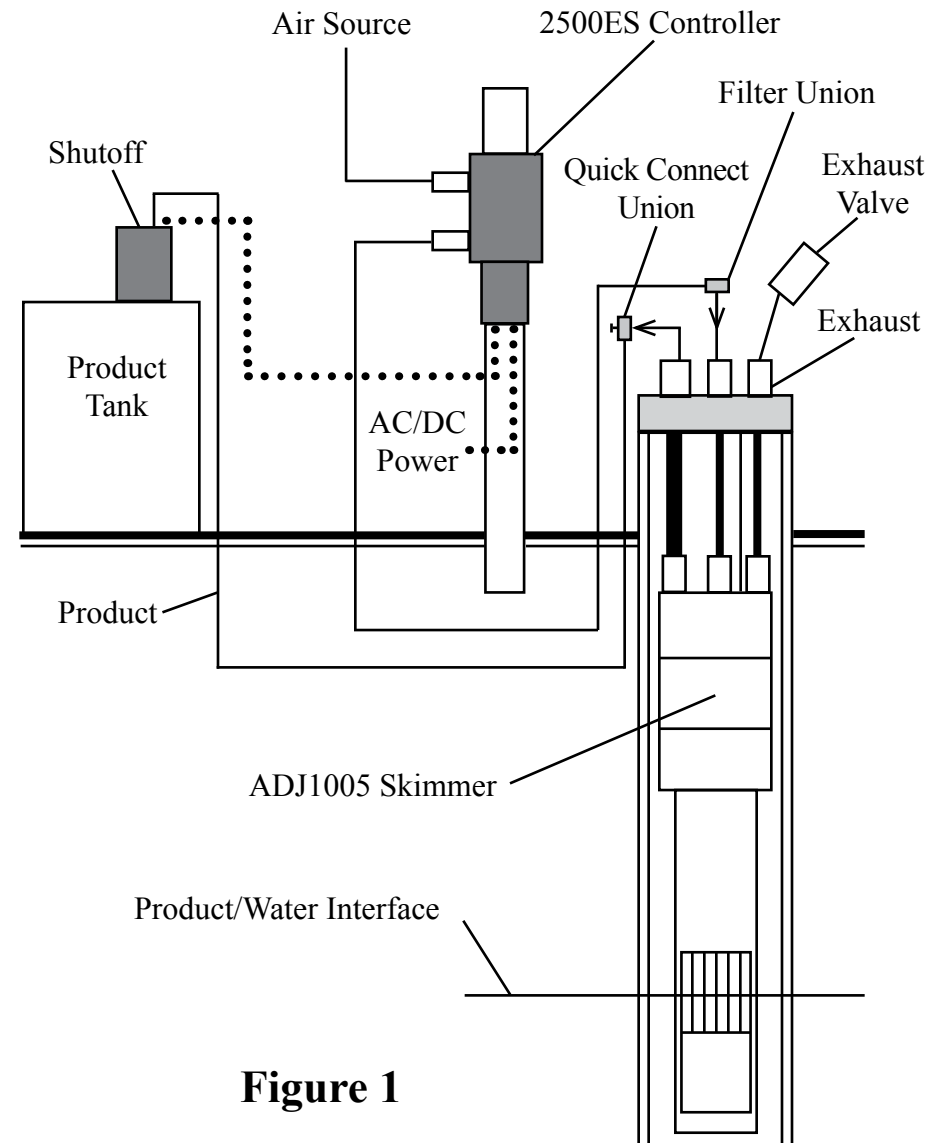
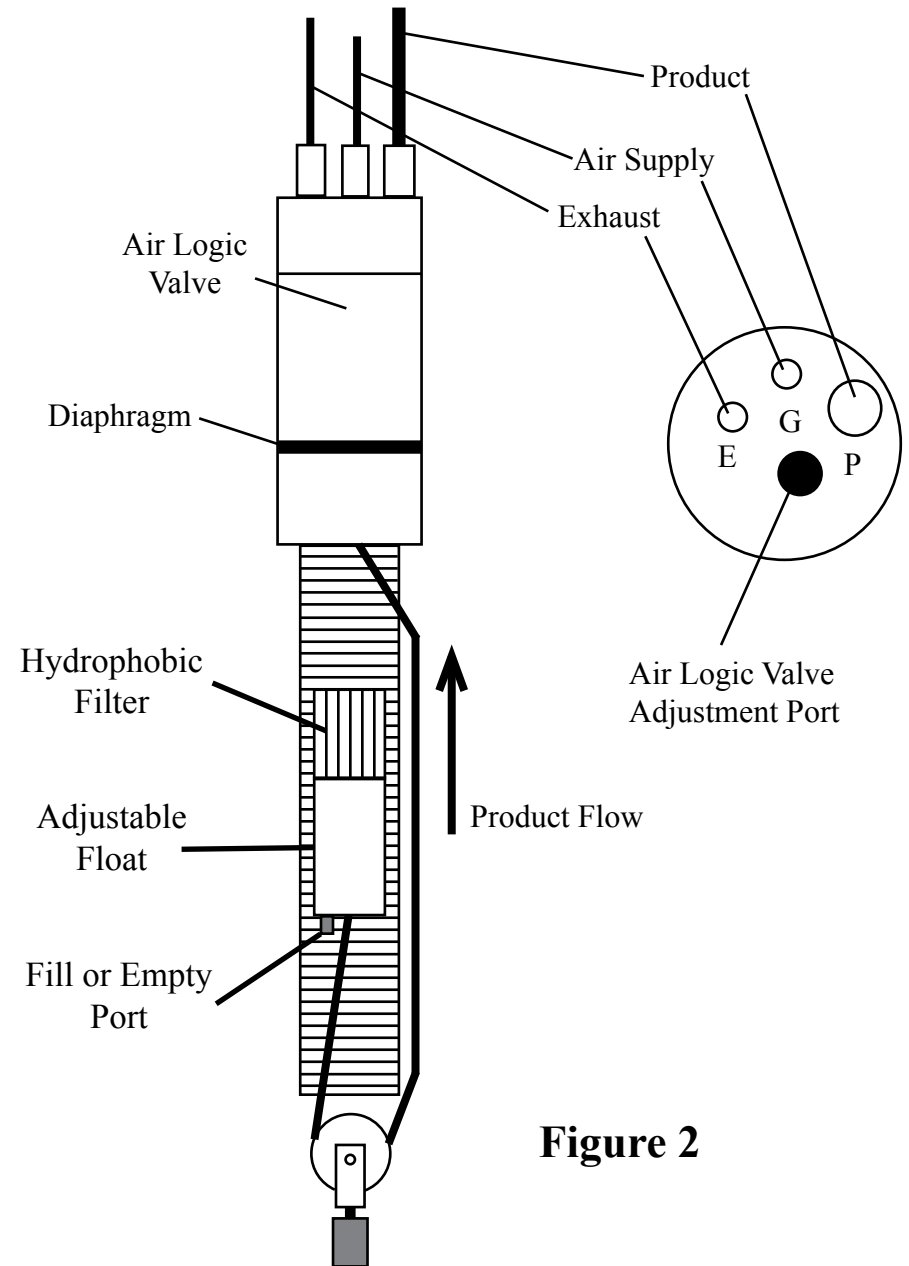

Figure 1
Figure 2
The system (Figure 1) relates to floating hydrocarbon recovery in wells four inches in diameter and larger. This system includes: an intrinsically safe ADJ1005 pneumatic Smart Skimmer, with an adjustable float (Figure 2), which removes only the product to a sheen down to 200 feet deep; and a three function electronic Controller Model 2500ES that operates the skimmer intermittently, records run time, and has a high level tank shutoff assembly.
STEP 7. Position the skimmer and well cap on the ground near the well. **NOTE:** If the skimmer is over 60 feet deep, use a vented design skimmer. Cut a length of 3/8" OD air supply tubing to cover the distance from the top of the well down to water/product interface, plus 5 feet. Slide enough tubing through the well cap and attach the end of the tubing to the top of the skimmer tube fitting labeled "G" (Figure 2). If the product thickness is greater than 1 foot, position the skimmer's "Black Reference Line" on skimmer well screen 1 foot below top of product. If the product thickness is less than 1 foot, position the skimmer's "Black Reference Line" on skimmer well screen at the water/product interface.
STEP 8. Cut a length of 1/2" OD product tubing same length as the air supply line. Install 1/2" OD product tubing through the well cap tube fitting labeled "P" (Figure 2). Slide enough tubing through the well cap and attach the end of the tubing to the top of the skimmer tube fitting labeled "P". **CAUTION:** Do not kink the tubing.